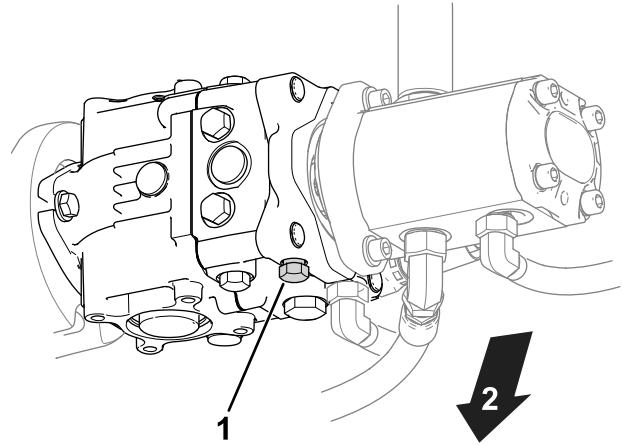

Figure 31
1. Locate the bypass valve on the pump (Figure 31).